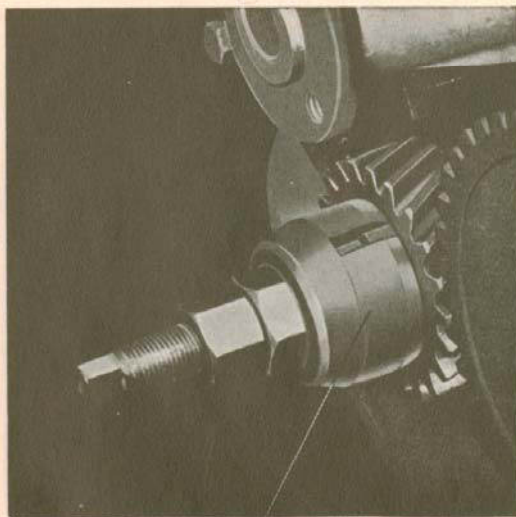
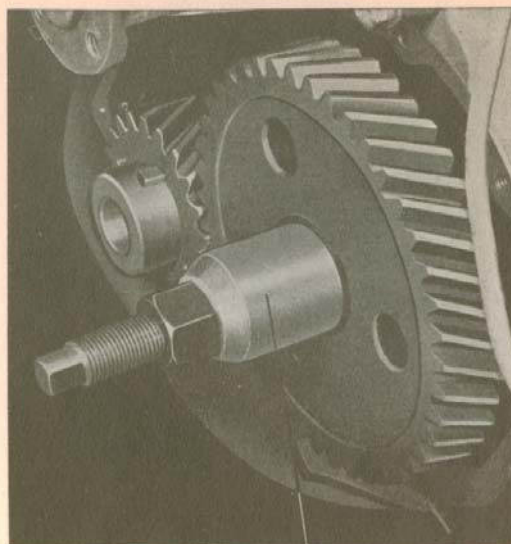
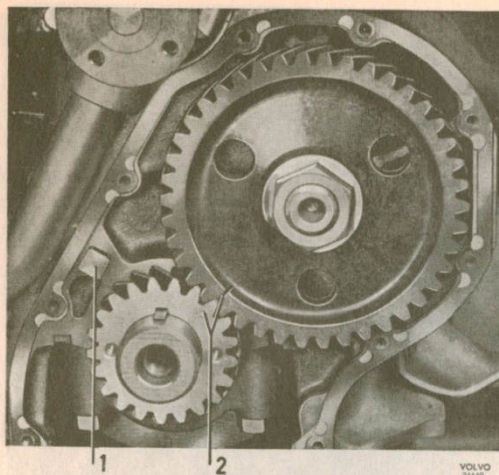

Fig. 1-26. Fitting the crankshaft gear
Fig. 1-27. Fitting the camshaft gear
Fig. 1-29. Timing gear setting
4. Fit the crankshaft gear with SVO 2407, Fig. 1-26. Fit the camshaft gear with tool SVO 2408, Fig. 1-27. Do not push the shaft in so that the seal washer at the rear end of the camshaft is forced out. Check that the gears have the correct relationship according to the markings shown in Fig. 1-29. There are flats on tool SVO 2407 to turn the crankshaft.